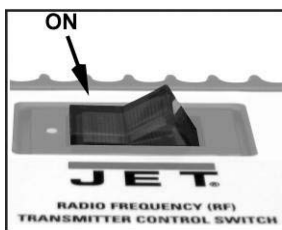

Figure 13A
3. On the main unit place the switch to the *ON* position (Figure 13A). The red LED on the main unit should light up.